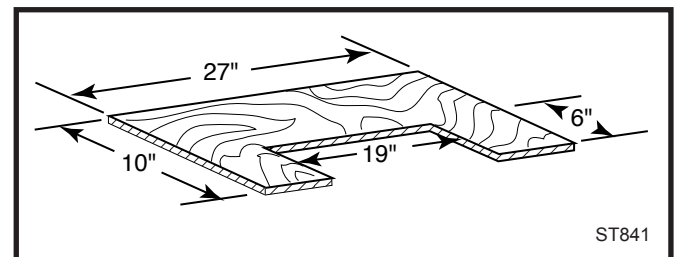

**Fig. 6** Bottom plate cement locations.
11. Cement the channels in the stove bottom as indicated in Figure 6.